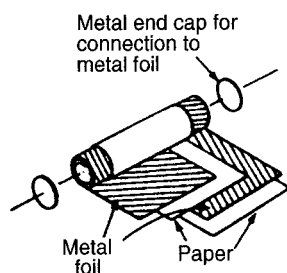

Figure 6.15
- Paper capacitors.** A typical paper capacitor is shown in Fig. 6.15 where the length of the roll corresponds to the capacitance required. The whole is usually impregnated with oil or wax to exclude moisture, and then placed in a plastic or aluminium container for protection.